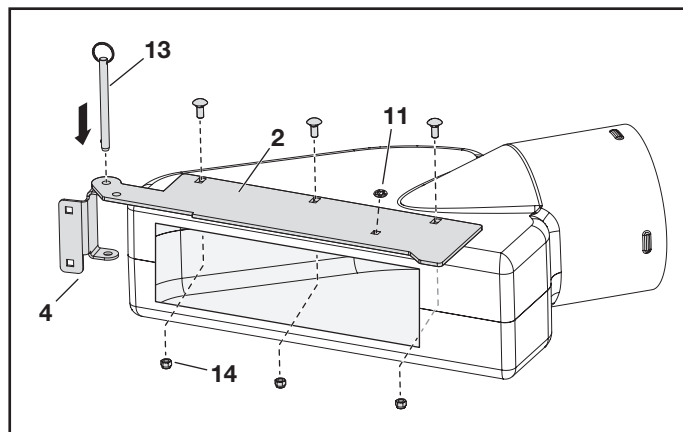

FIGURE 3
STEP 3: (SEE FIGURE 3)
- Position deck adapter (1) so that the top lip of the deck hinge is on top of the adapter while the bottom lip is inside the adapter.
- Position boot mount bracket (2) over top lip of the deck hinge (4) and insert quick release pin (13).
- Position boot mount bracket (2) in place on the deck adapter (1) and mark holes for drilling. Drill holes in deck adapter for attaching boot mount bracket.
- Place bolt (10) through the plate (2) and push on retainer (11). Use a 7/16" socket to push the retainer onto the bolt.
- Attach boot mount bracket (2) to deck adapter (1) using three 5/16" carriage bolts (10) and 5/16" nuts (14).